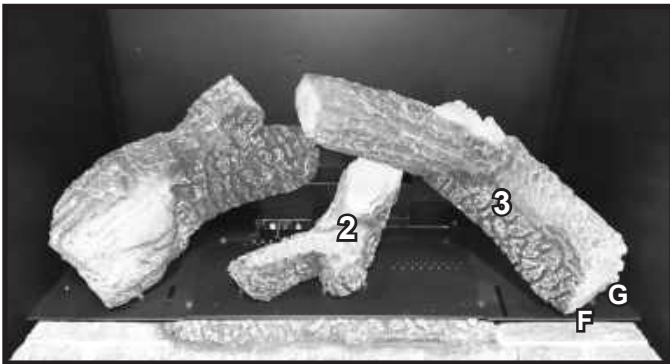

Figure 12. Log #3 Installed
**LOG #3:** With the burnout facing left, place the big end of Log #3 against log pin F and slide back until it contacts log pin G as shown in Figure 12. The small end will sit on the flat spot of Log #2.